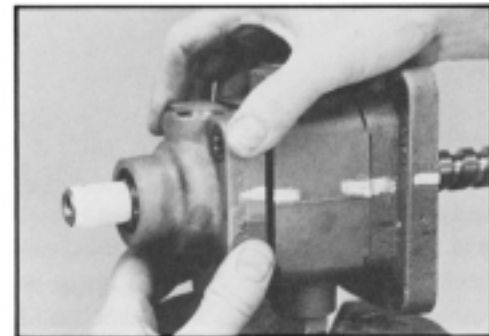

Figure 120
18. Install upper cover (7) assembly carefully over worm shaft (23) serrations, aligning the upper cover, valve body (15A) and adaptor (18) in their original positions. SEE FIGURE 120.